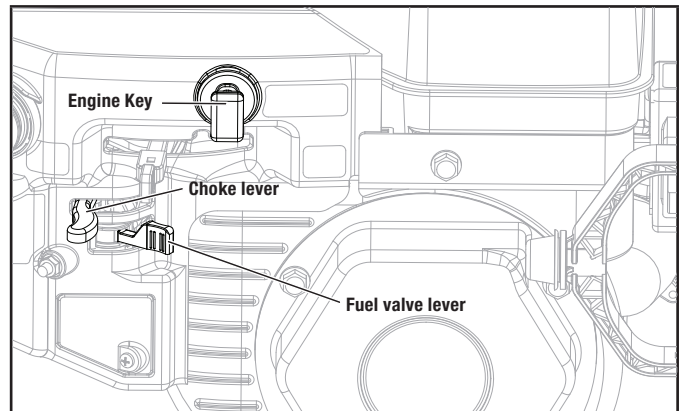

Figure 13A
1. Make sure the engine safety key is inserted into the key hole (Fig. 13A).
2. Move the fuel valve lever to the on position (Fig. 13A).
3. Move choke lever depending on unit's temperature (Fig. 13A):
- 3a. To start a cold engine, move the choke lever to the choke position (Fig. 13A).